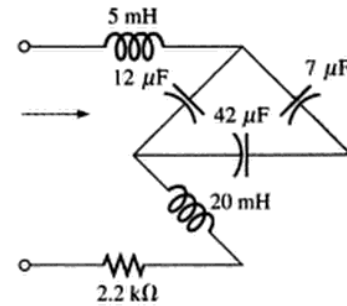

FIG. 11.104
39. Reduce the network of Fig. 11.104 to the fewest elements.